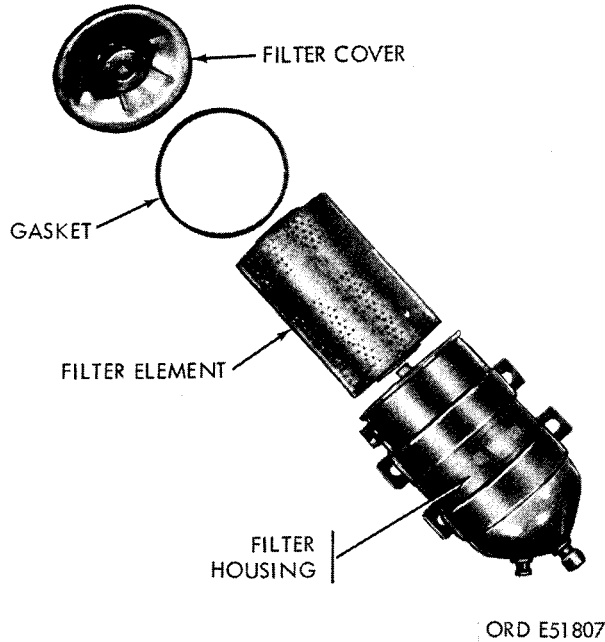

Figure 2-86. Fuel filter—exploded view—multifuel engine LDS 465-1.
(1) Position a new secondary or final element (fig. 2-86) in the housing. Use new gaskets.
(2) Use new gaskets when installing the primary element and housing assembly.
(3) Install the filter drainplugs. Start the engine and allow it time to warm up. Check all filters for leaks. Tighten where necessary.